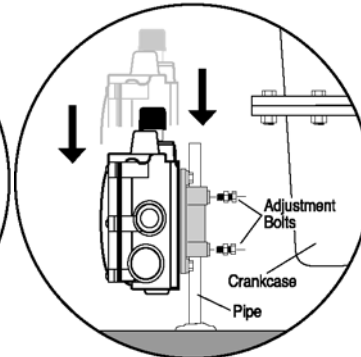

Figure 2B
3. Slip the LM500 onto the pipe and install the two adjustment bolts. Each bolt consists of a 1/4-20 UNC x 1in. bolt, nuts and lock washers. See Figure 2B. **DO NOT** tighten the adjustment screws too tight as height adjustment might be needed later during the operation. Refer to “Connecting Fittings and Hoses”, for more information regarding height adjustment of the LM500 in alignment with the oil level in the crankcase.